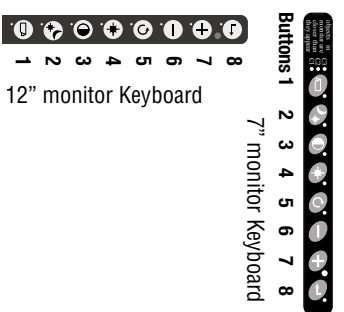

Figure 3
Adjustment of the monitor settings is done via the service menu. To open the service menu, simultaneously press the camera selection button (1), the minus button (6) and the plus button (7) (see Figure 3). The (monitor) Service menu (see Figure 4) will appear. The following buttons are used to navigate through the menus: